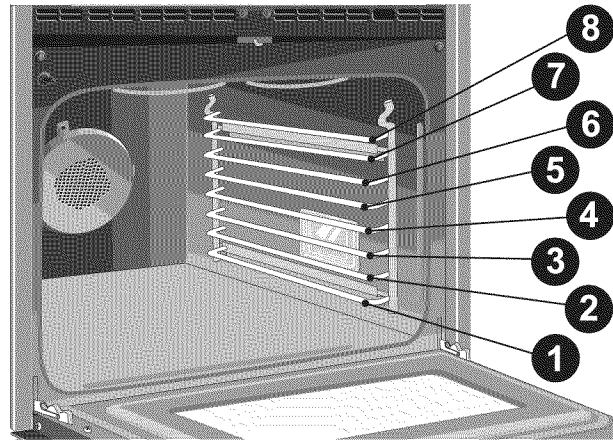

Fig. 2
- Use the recommended pans and oven rack positions for the type of meat being prepared -Figs. 2 & 3-.
2. Arrange the interior oven rack to rack position recommendations -Figs. 2 & 3-. Be sure to place the prepared food and pan directly under broil element. Leave the oven door closed.